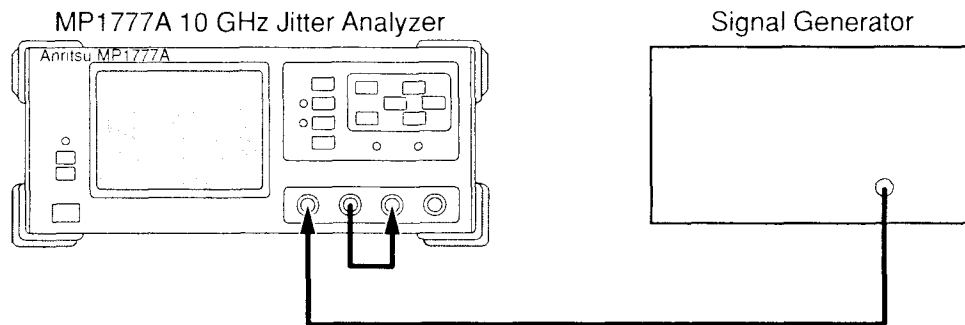

Fig. 6-3 Jitter Measurement Accuracy Performance Test
- (1) Connect the MP1777A 10 GHz Jitter Analyzer and the Signal Generator as shown in Fig. 6-3.
- (2) Set the Bit Rate to 9953M on the “Setup: Interface” screen.
- (3) Set the TX Jitter = ON and the Freq. Offset = 0.0 ppm on the “Test menu: Manual Jitter” screen.
- (4) Set the Range = 0.5 UI on the “Test menu: Manual Jitter” screen.
- (5) Enter the sign wave signals of 100 kHz frequency from the external signal generator. Adjust the amplitude of the Signal Generator so that the Tx monitor on the “Result/Jitter” screen is set to 0.5 UIpp.
- (6) Set the Rx Range = 1 UI and the Filter = HP1 + LP on the “Test menu: Manual Jitter” screen.
- (7) Check that the value of the Rx Jitter Peak–Peak on the “Result: Jitter” screen satisfies the standard in Table 6-3-1.
- (8) Set the Rx Range = 1 UI and the Filter = HP + LP on the “Test menu: Manual Jitter” screen.
- (9) Check that the value of the Rx Jitter rms on the “Result: Jitter” screen satisfies the standard in Table 6-3-2.
- (10) Change the Bit Rate on the “Setup: Interface” screen, and repeat 1 to 9 to check the accuracy.